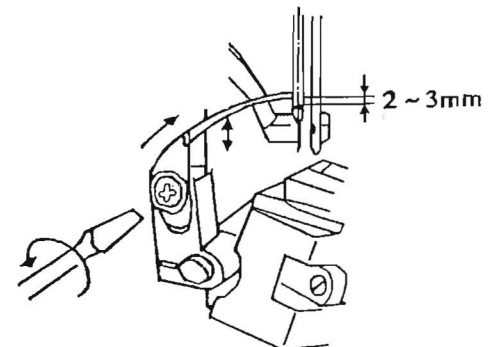

Fig. 10
(3) When the top of the large looper is aligned with the center of the parent needle after the large looper has been advanced from its back end position, the top of the large looper shall be 2 to 3mm above the upper end of the needle hole in the parent needle as illustrated in *Fig.10*. To adjust this position, loosen the setscrew of the large looper.